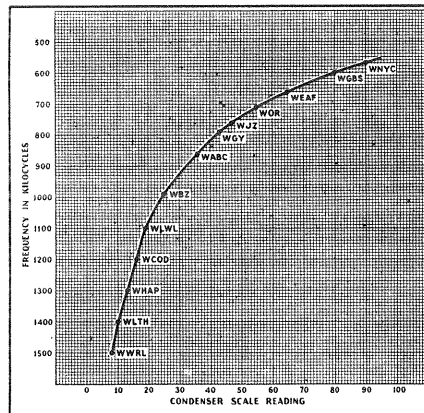

Figure 16—R.F. Oscillator calibration curve
The receiver and S.P.U. Radiotron sockets, numbers, lugs and terminals used in making these tests are shown in Figure 7. The receiver wiring diagram is shown in Figure 15 and the S.P.U. wiring diagram in Figure 16.
The R.F. oscillator may be calibrated in the same manner as the I.F. oscillator with the exception that its fundamental frequency should beat against numerous broadcasting stations and a curve plotted so that all frequencies will be known. Such a curve is shown in Figure 16. As the dial of the receiver is adjusted at both 1400 K.C. and 600 K.C. it is very important that these two places on an oscillator used for that work be accurately known. A step by step procedure for making such a calibration follows:
- As many stations as possible, tuned in at various positions throughout the dial scale, should be checked by this method, and after all points have been located on the chart, the points should be connected by means of a line. This line will represent the calibration of the oscillator. Figure 16 shows a typical calibration curve.